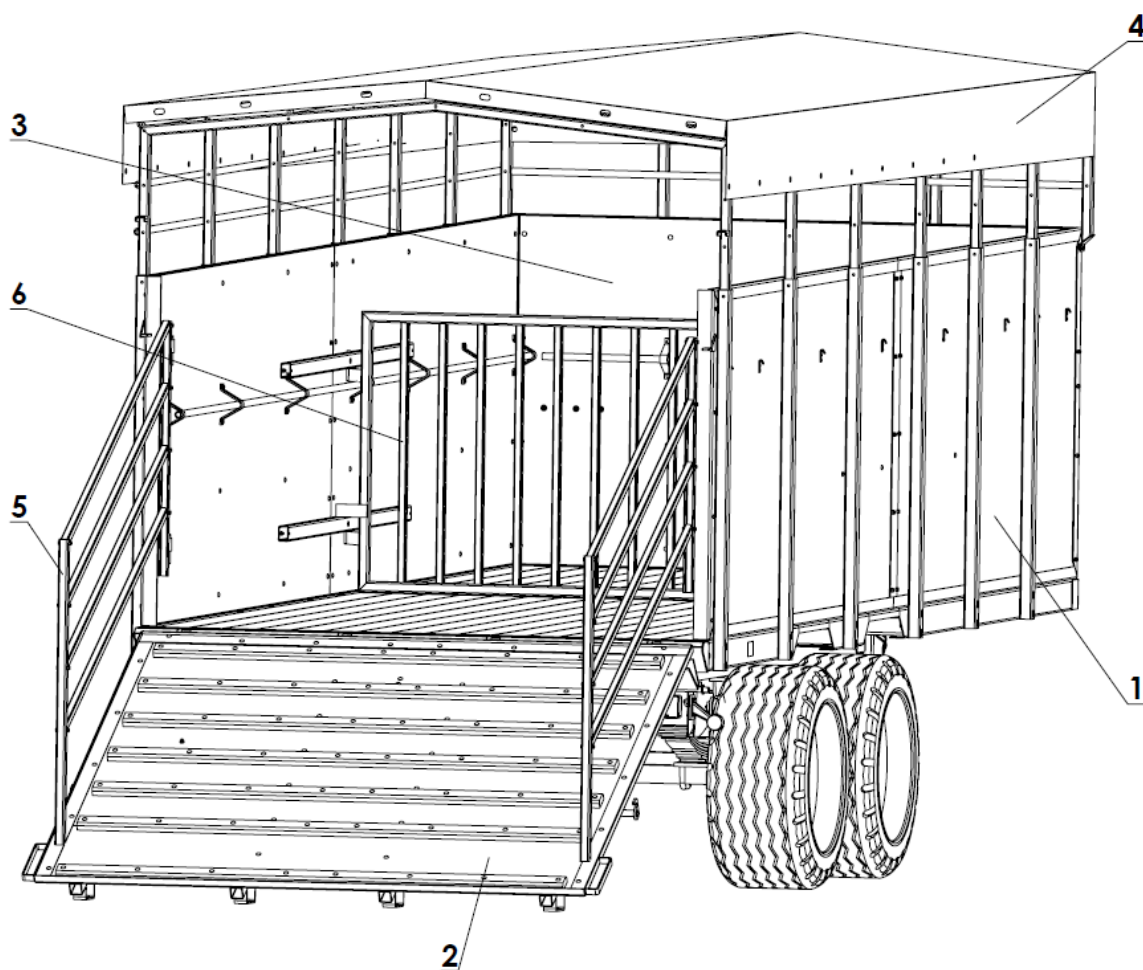
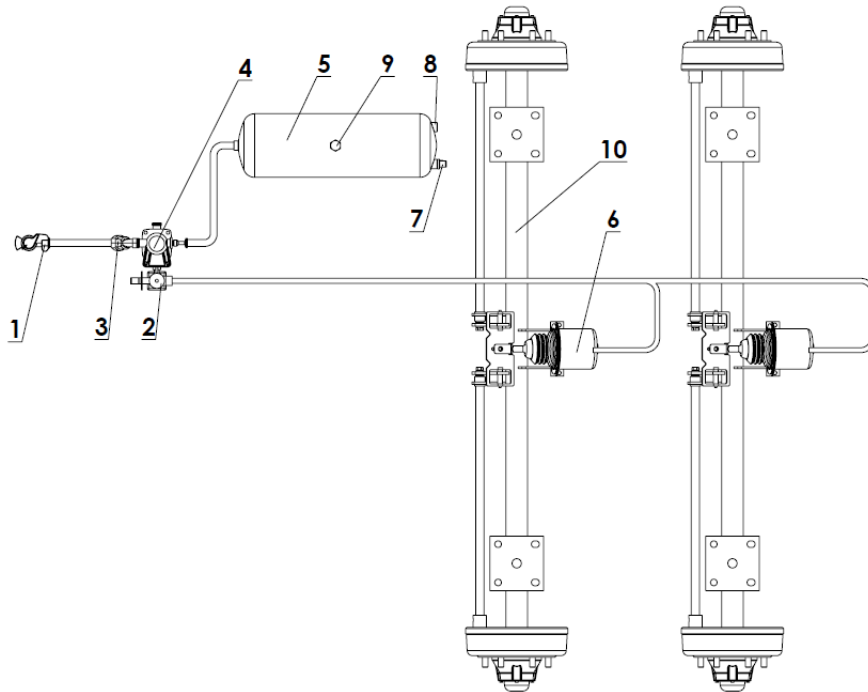

Fig. 5. Load box.
Fig. 6. Diagram of single-hose pneumatic system.
The load box (fig. 5) is designed for transport of livestock. It consists of a wooden floor (impregnated boards mounted on the frame), side walls, front wall, rear wall, tarpaulin frame and rails situated near the rear wall. In addition, a tarpaulin and interior partition making it possible to divide the load box are available on order.
The braking force regulator found in the pneumatic system (item 2 fig. 5 and item 9 fig. 6) is controlled manually. Depending on the load of the trailer with cargo, the control lever must be set in one of three positions: